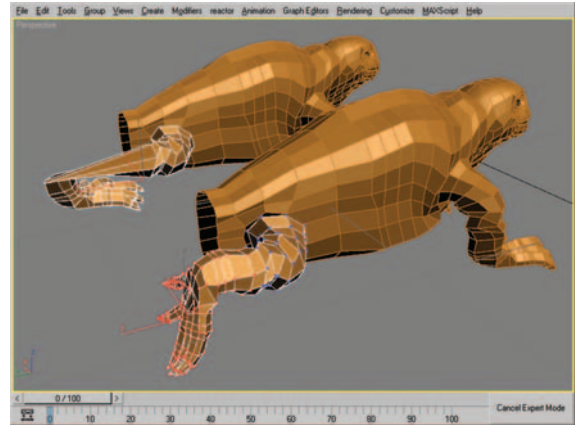

Figure 9.80 Vertex selection (front) and foot after rotating into position (rear).
43. Select the vertices that make up the lower portion of the leg and the foot (you should leave three edge loops in place for the knee area as seen in my example) (Figure 9.80, left).
Rotate your vertex selection so that the foot is parallel to the ground plane (Figure 9.80, right). I know it looks a little messed up right now, but we are going to move and scale the foot to correct this.